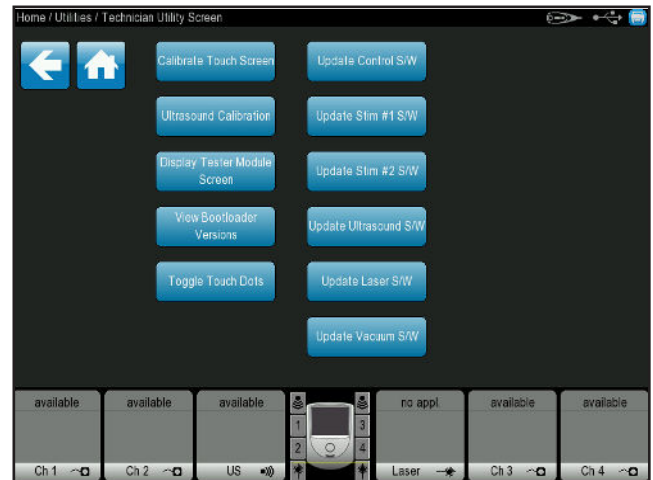

FIGURE 2
3. Press the Power, Start, and Stop Buttons simultaneously to bring up the Technician Utility Screen. See Figure 2.